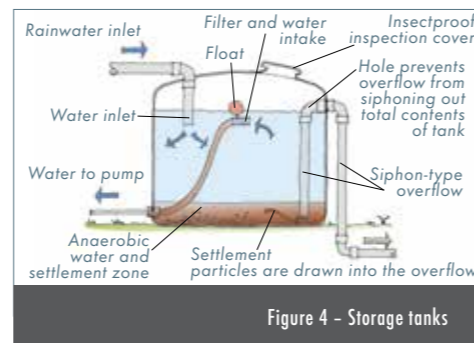

Figure 4 – Storage tanks
- Install the water intake near the water surface (where the water is likely to be cleanest) using a floating intake (Figure 4 overleaf).